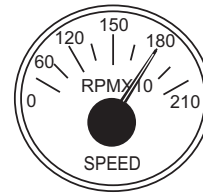

Figure 53. Engine Tachometer Gauge
11. The **tachometer gauge** (Figure 53) will indicate the speed of the engine in **RPM**. Under normal operating conditions this speed is approximately 1,800 rpm.